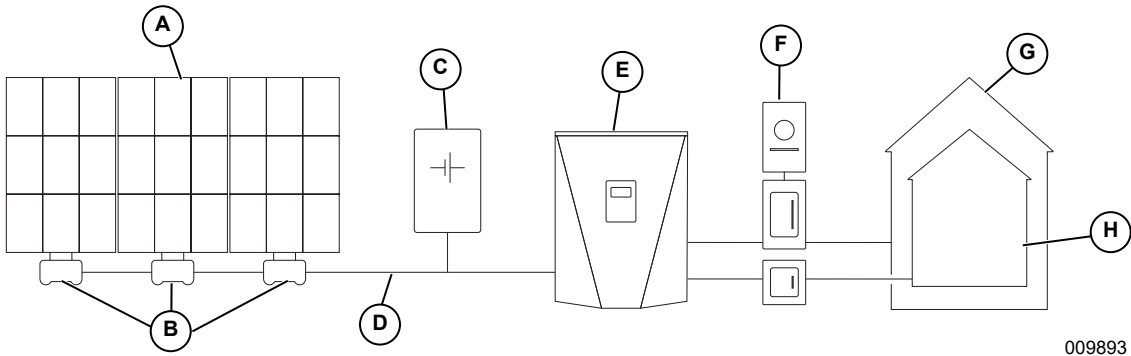

Figure 2-3. Generac PWRcell System Example
In **Figure 2-3** Generac PWRcell Inverter (E) is directly connected to Generac PV Link (B) and Generac PWRcell Battery (C) on DC (REbus) line (D). To the right of the inverter are AC lines: 120/240 VAC for grid and home loads (G), and protected loads (H) support up to 50 A.